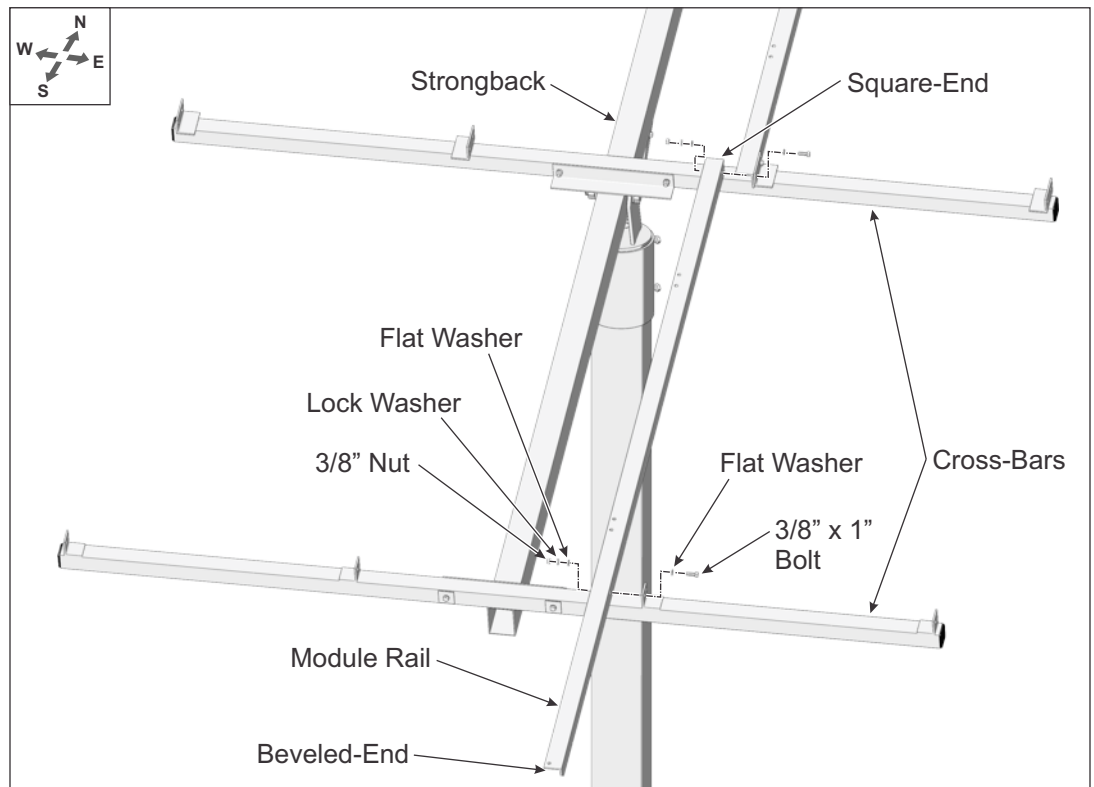

Figure 4-3: Installing the Southern-most Inboard Module Rails to Cross-Bars
- C. Position Module Rail with its angle cut end positioned south and its square cut end butting up to the end of the previously installed Module Rail. Secure with 3/8" x 1" bolts and hardware. Finger-tighten for now. (See Figure 4-3)